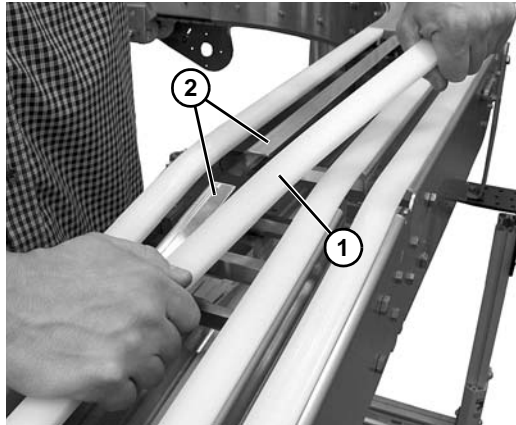

**Figure 32**
2. The wear strips (**Figure 32, item 1**) can be removed in two ways: Use a flat blade screw driver (**Figure 32, item 2**) to pry wear strip up and over tab (**Figure 32, item 3**) on rail or use a punch and hammer to flatten tab and remove wear strip.